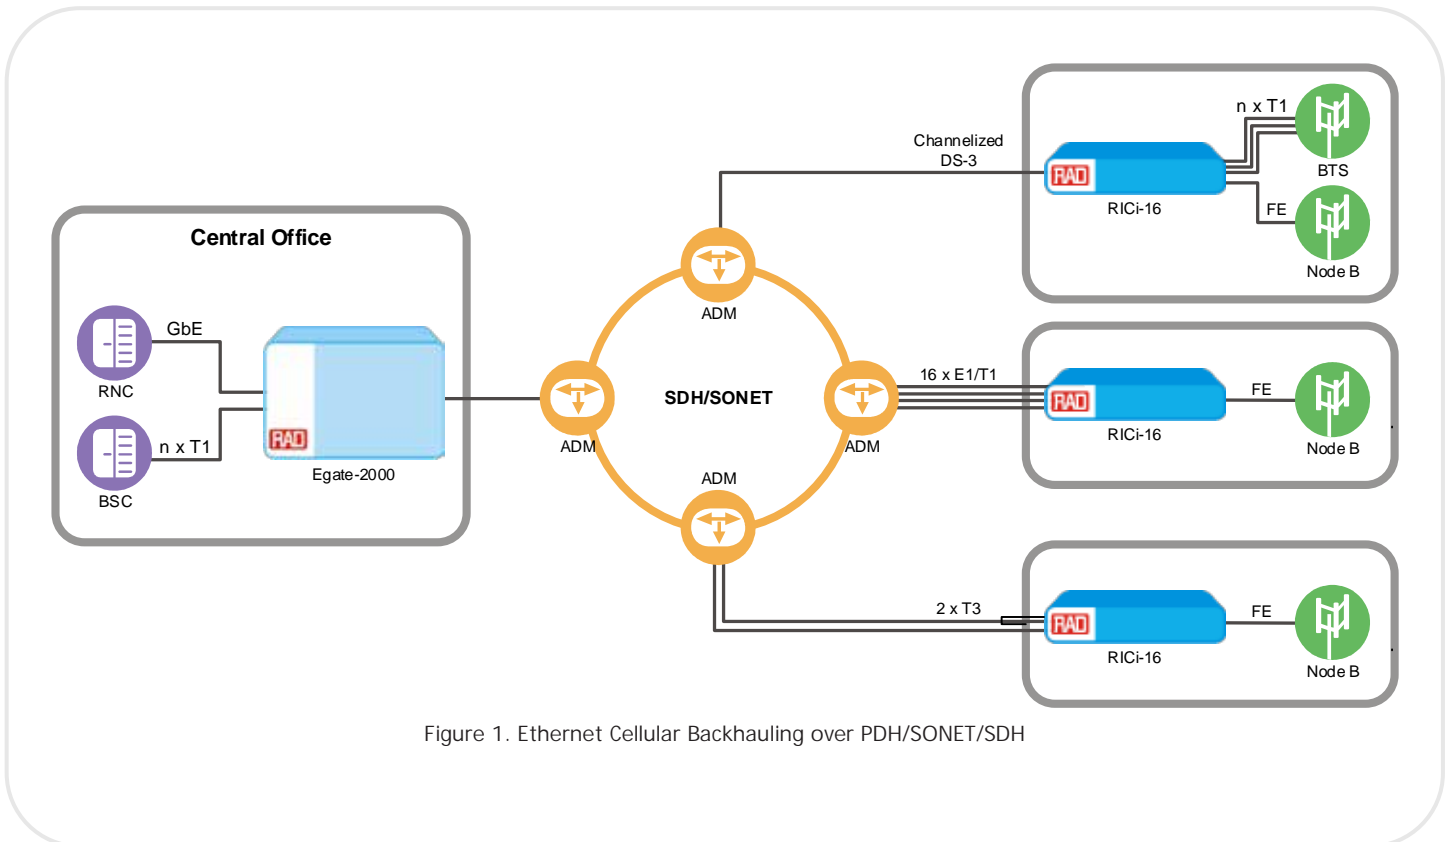

Figure 1. Ethernet Cellular Backhauling over PDH/SONET/SDH
- IP DSLAM, cellular IP, and WiMAX base station backhauling (see Figure 1)